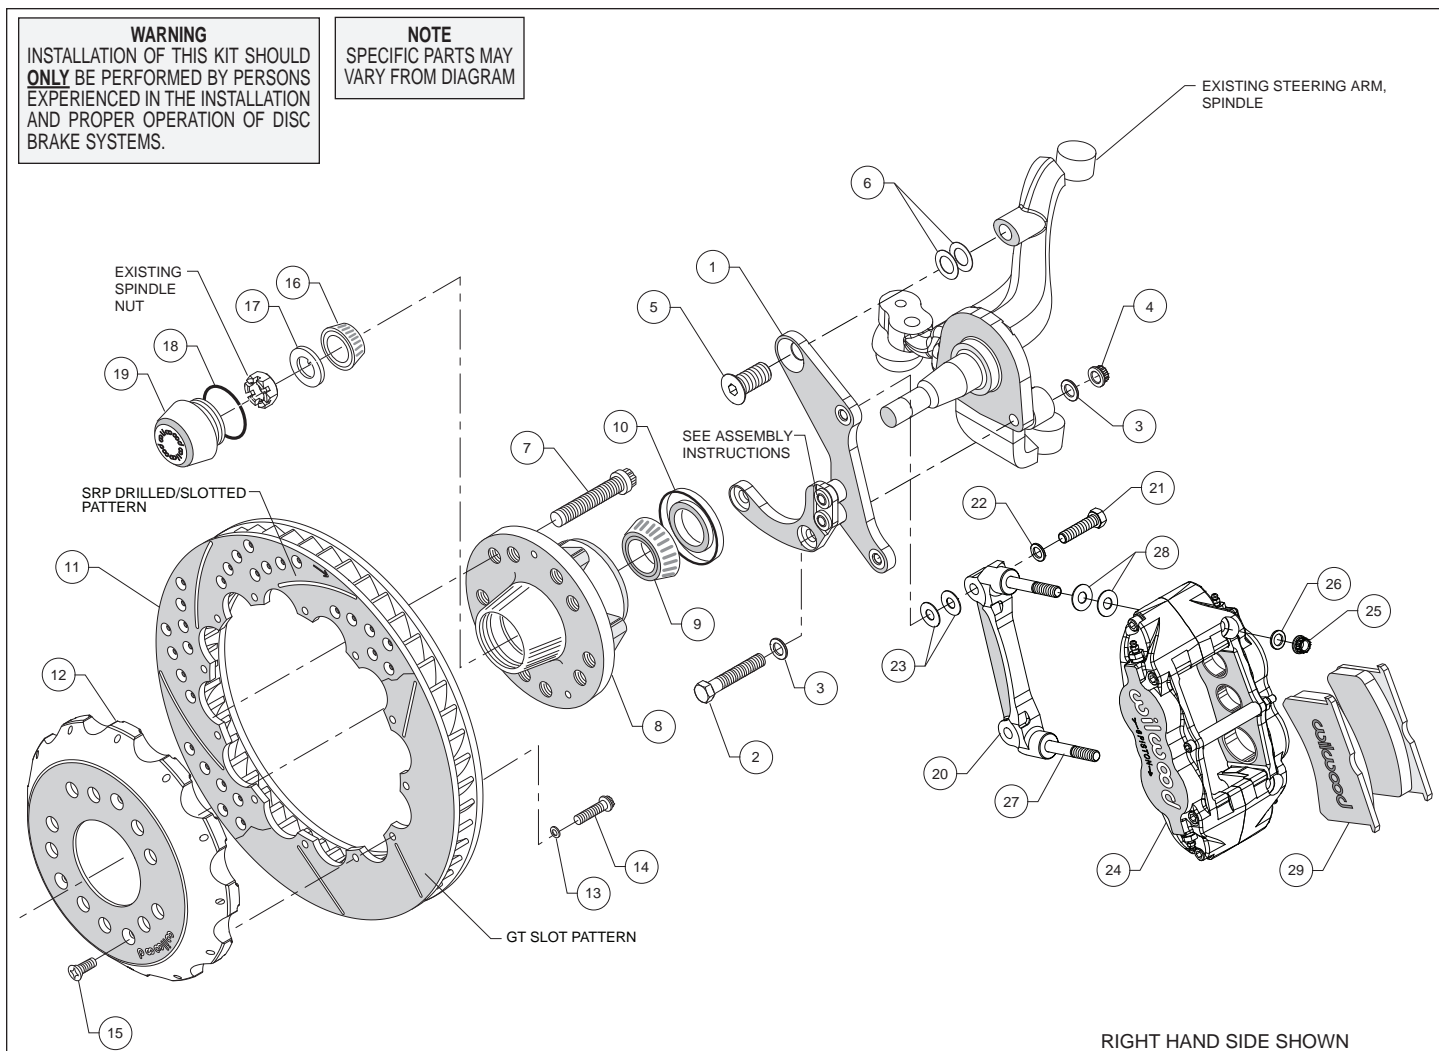
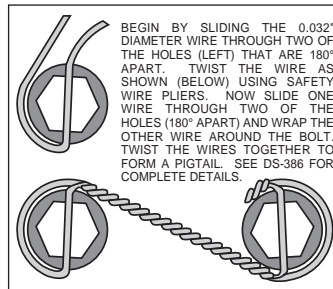
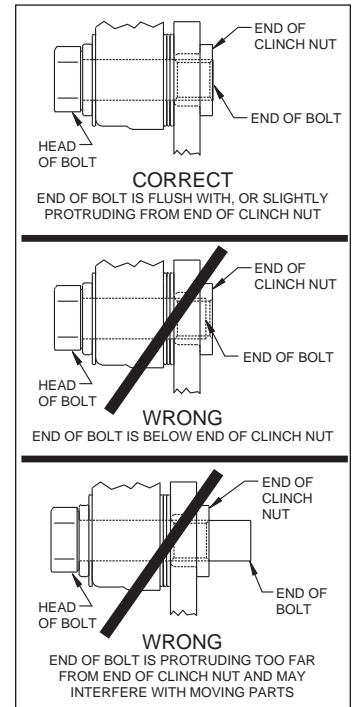

Figure 1. Typical Installation Configuration
Figure 3. Safety Wire Diagram
Figure 4. Clinch Nut Engagement Diagram
Assembly Instructions (numbers in parenthesis refer to the parts list and Figure 1 on the preceding pages): **CAUTION:** All mounting bolts must fully engage clinch nuts. Be sure to check that all bolts are either flush or protruding through flanged side of clinch nut after shimming, Figure 4.
- The spindle bracket (1) has been assembled at the factory for alignment purposes. Loosen the two bolts that secure the brackets together so that the bolts are hand tight only. This will enable the bracket assembly to be adjusted to accommodate various spindle tolerances during assembly. Align bracket with the two lower holes on the spindle face and attach using bolts (2), washers (3), and secure using nuts (4), as shown in Figure 1 and Photo 1. Install bolt (5) through top of bracket while placing shims (6) between bracket and spindle, Figure 1. Initially use two .024" thick shims (6) on the top bolt between the bracket and upright. Temporarily tighten the mounting bolts. Ensure that the flanged heads of the clinch nuts in the bracket are facing outboard, Photo 1. **NOTE:** The bracket must fit squarely against the mounting points on the spindle. Inspect for interference from casting irregularities, machining ridges, burrs, etc.
- Check that the bracket is aligned parallel to the rotor by assembling and installing the hub/rotor per the step below. If not, adjust by adding or subtracting shims (6) between the spindle and bracket, Figure 1.
- Install wheel studs (7) into the hub (8), Photo 2. Torque to 77 ft-lb. **NOTE:** There are two five lug patterns in the hub (5 x 4.50 and 5 x 4.75). Ensure the correct hub stud pattern is being used to fit the wheel application.
- Pack the large inner bearing cone (9) with high temperature disc brake bearing grease (available from your local auto parts store) and install into the backside of the hub (8), Photo 3.
- Install the grease seal (10) by pressing into the backside of the hub (8), flush with the end of the hub, Photo 3.
- Orient the rotor (11) and the hat (12) as shown in Figure 1 and Photo 4. Attach rotor to hat using bolts (14) and washers (13). Using an alternating sequence, apply red *Loctite*[®] 271 to the threads, and torque to 155 **in-lbs**. For an added measure of security, the bolts may be safety wired using standard 0.032 inch diameter stainless steel safety wire as shown in Figure 3. Refer to Wilwood's data sheet DS-386 (available at www.wilwood.com/Pdf/DataSheets/ds386.pdf) for complete safety wire installation instructions.
- The caliper mount bracket (20) should initially be installed with clean, dry threads on the mounting bolts. Orient the bracket as shown in Figure 1 and Photo 7, and install using bolts (21) and washers (22). Initially place two .035" thick shims (23) on each bolt between the bracket and the spindle bracket (1), Figure 1. Temporarily tighten the mounting bolts. Later, after the caliper alignment has been checked, the mount bolts will be secured using red *Loctite*[®] 271.
- **NOTE:** *This kit contains distinct right and left hand calipers that must be mounted in a specific direction, as described below.* Lubricate the caliper mounting studs (27) with lightweight oil. Initially place two .035" thick shims (28) on each stud between the caliper and the bracket, as shown in Figure 1 and Photo 8. Mount the caliper (24) onto the bracket (27) using lock nuts (25) and washers (26), Figure 1. Ensure that the caliper is mounted so the largest pistons are at the rotor exit end of the caliper, in relation to the direction of rotor rotation. Temporarily tighten the lock nuts and view the rotor through the top opening of the caliper. The rotor should be centered in the caliper, Photo 9. If not, adjust by adding or subtracting shims (23) between the spindle bracket (1) and the caliper bracket.
- Always use the same amount of shims on each of the two mounting bolts. **NOTE:** *The end of each bolt must be flush with or slightly protruding from the head of the clinch nut, as shown in Figure 4.* If necessary place spare shims between washer (22) and caliper mounting bracket to achieve the proper clinch nut engagement. Once the caliper alignment and clinch nut engagement are correct, remove the bolts one at a time, apply red *Loctite*[®] 271 to the threads, and torque to 40 ft-lb.